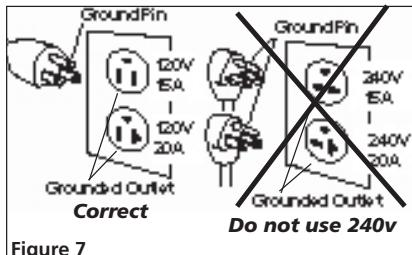

Figure 7
1. This product is for use on a nominal 120 v circuit. It must be grounded. In the event of an electric short circuit, grounding reduces the risk of electrical shock by providing an escape wire for the electric current. Unit is equipped with a cord that has a grounding prong. It will fit one of the common outlet types shown in Figure 7. If plug will not fit in the desired outlet, have the plug or the outlet replaced by a qualified electrician.
1. If the plug on the electrical cord of the unit is unfamiliar to you or will not fit your particular receptacle, Figure 7 will help you understand why by illustrating the different plugs and the voltages they are to be used with.